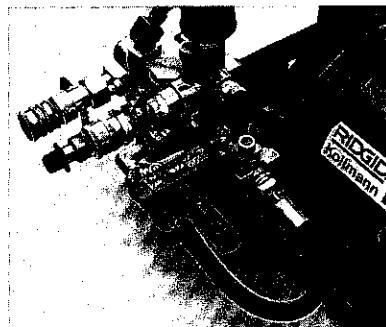

Figure 7. To negotiate bends and traps, both valves are "ON" for maximum pulse.
**To negotiate bends and traps**, open the green pulse valve to the "ON" position (Figure 7). With both pulse valves "ON", the jetter generates maximum pulse and the pressure drops to about 650 PSI.